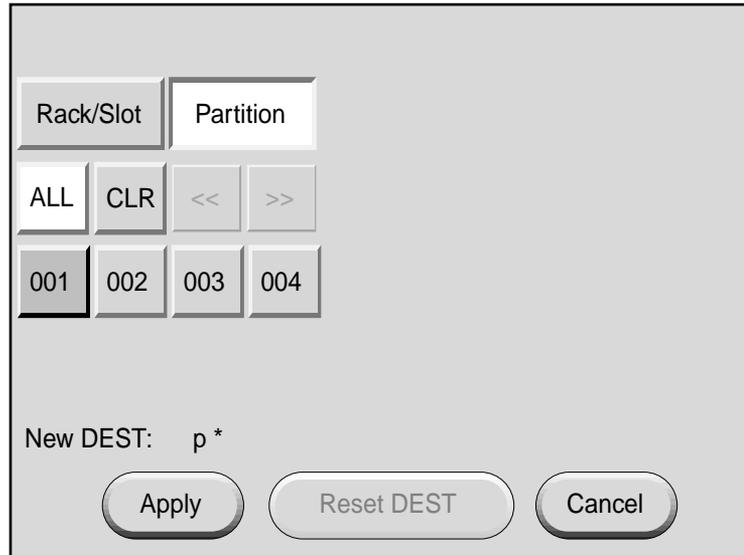

Figure 1-20 Partition Selection Window
4. If you want to power off a partition, select **Partition** from the destination selection window. The partition selection window, shown in Figure 1-20, appears.